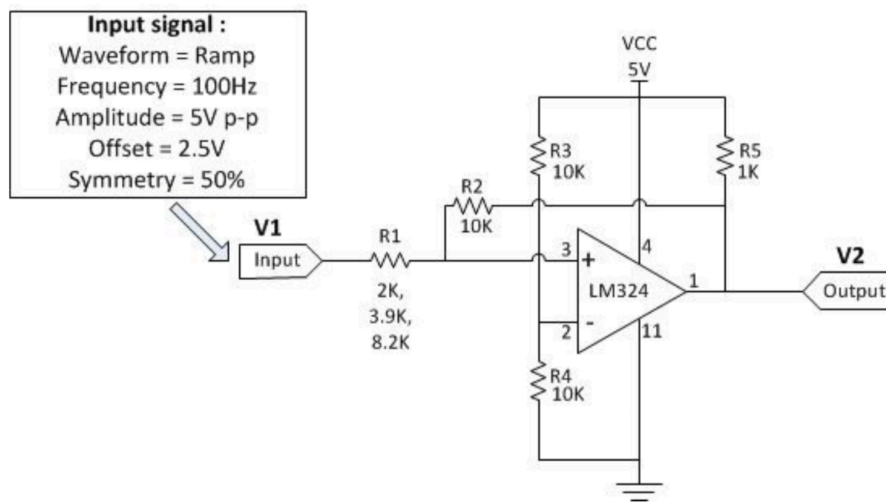

Figure 6: Non-inverting Schmitt trigger.
- 1) Use pinout diagram for LM324 op amp IC shown in Figure 1 to non-inverting Schmitt filter circuit as shown in Figure 6. (Use $R_1 = 2K\Omega$ at first)